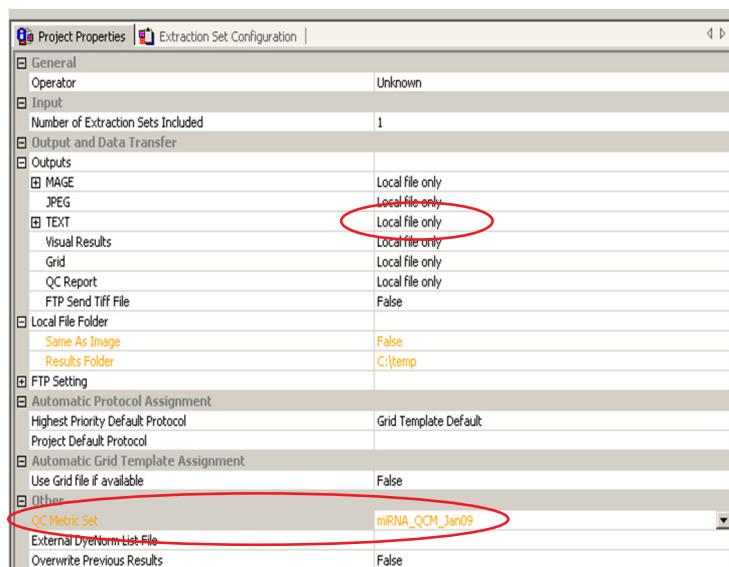

Figure 23. Feature Extraction version 9.5 dialog box
- c In the **Input** section, verify that at least the following default settings as shown in **Figure 23** are selected.
- d For versions of FE earlier than 10.7.3, in the **Other** section, from the QC Metric Set drop-down list, select **miRNA_QCMT_Jan09** as shown in **Figure 23** on page 51.